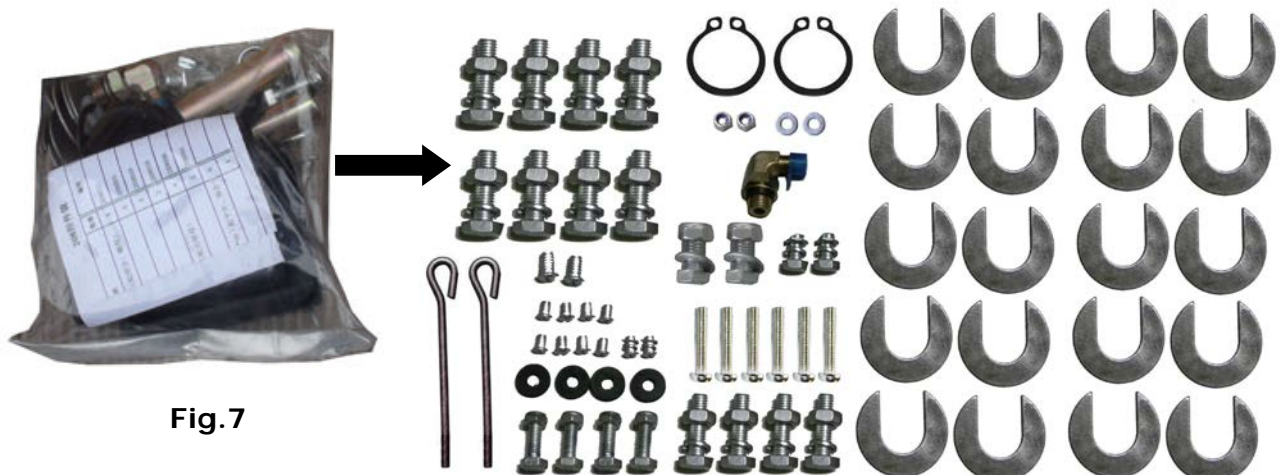

Fig.7
4. Check the parts of the parts bag according to the parts bag list (See Fig. 7)